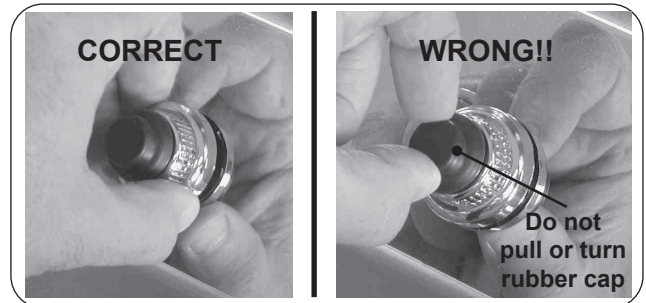

Fig. 32-3 Remove igniter cover
- Important:** Do not attempt to pull or turn the rubber cap (see Fig. 32-3).